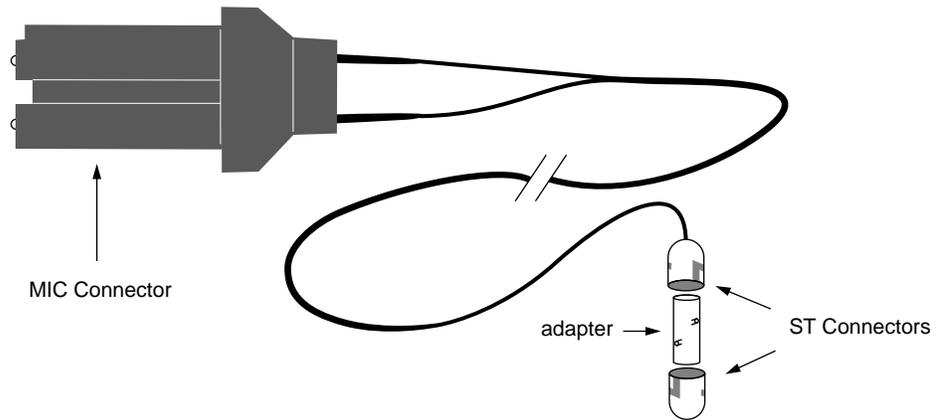

Figure 2-1 Loopback Cable Assembly and Adapter
- To itself with a loopback cable assembly that consists of a MIC-to-ST[®] dual fiber optic cable with an adapter for connecting the two ST connectors to each other, illustrated in Figure 2-1. The board must be reconfigured with this command so that it recovers the clock from its own transmit clock signal: